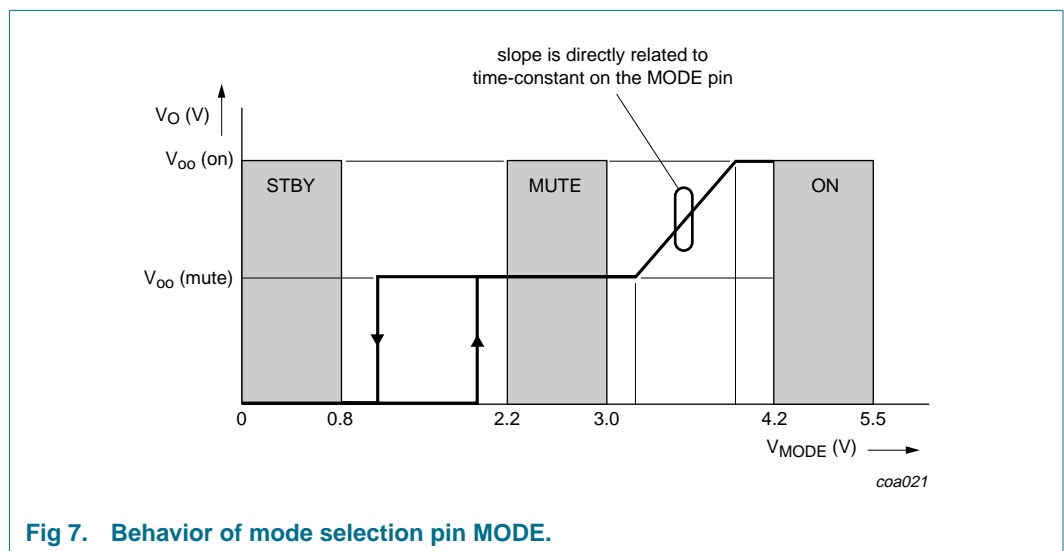

Fig 7. Behavior of mode selection pin MODE.
- [3] The transition between Standby and Mute mode contain hysteresis, while the slope of the transition between Mute and Operating mode is determined by the time-constant on the MODE pin; see Figure 7.